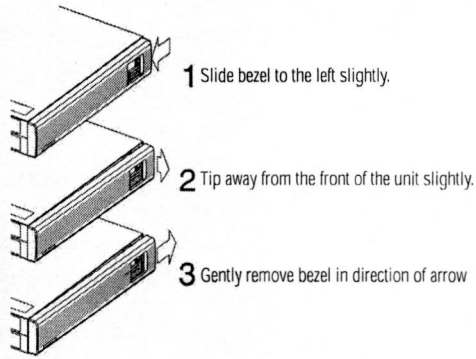

Fig. 27: Removing the UPS Front Bezel
1. Slide the front bezel to the left (bottom) and then pull away from the UPS to remove (fig. 27)
7. Replace the front bezel by reversing all three steps in figure 27.